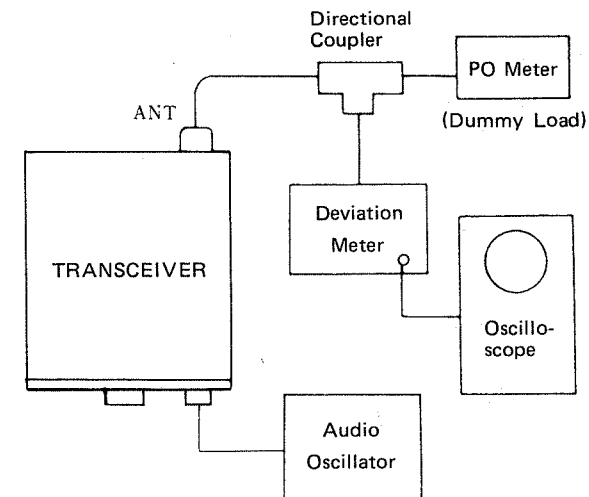

Figure 2
- (a) Assemble the test equipment and the transceiver as shown in Figure 2.
- (1) Program into memory the desired priority channel. Do not recall the channel at this time.
- (2) Dial up a basic operating frequency on the main VFO. This will be your main operation channel during priority channel operation.
- (3) Set the BUSY-MAN-CLEAR switch to BUSY or CLEAR, as desired.
- (4) Now push the yellow F button, followed immediately by a press of the MR/PRI button. The letter "P" will appear on the digital display, signifying priority channel operation. The display will then show the VFO frequency, with a flash every five seconds to the memory channel being checked for activity. When the memory channel is busy or clear (depending on your instructions), the scanner will halt on the memory channel. The pause/restart feature does not function in this mode; to restart, simply press the F and MR/PRI buttons again.
- (5) If the scan stop switch is set to the MAN position, the CPU will have no instructions for halting the scan. Simply press the DIAL or MR button to select the desired channel under this mode of operation. If you hit the PTT switch during manual priority channel operation, the checking of the priority channel will be delayed by five seconds.